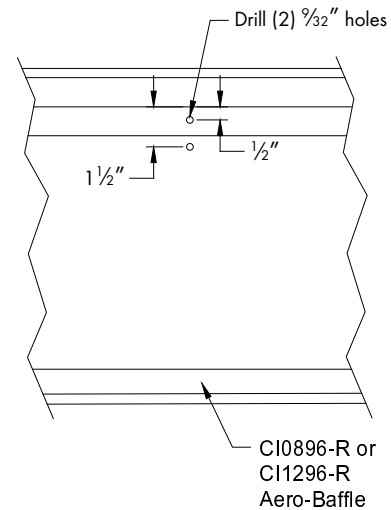

Figure 2
Drill (2) $\frac{3}{32}$ " holes, centered on length of door for a 4' door or 2' from each end for an 8' door. The first hole should be located $\frac{1}{2}$ " down from top of baffle and second hole should be $1\frac{1}{2}$ " from top of baffle. See Figure 2.